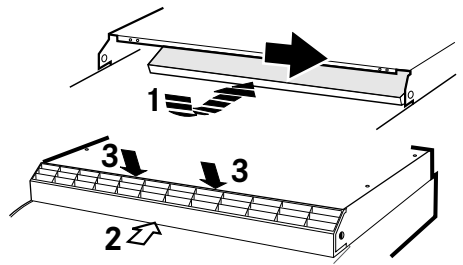

Fig. 12
Check that the filter retainer is positioned so that it covers the ventilation opening on the cooker hood (1). Slide in the front so that it snaps into place on both sides (2) and then gently press the top of the front so it also snaps into place in the correct position (3), Fig. 12